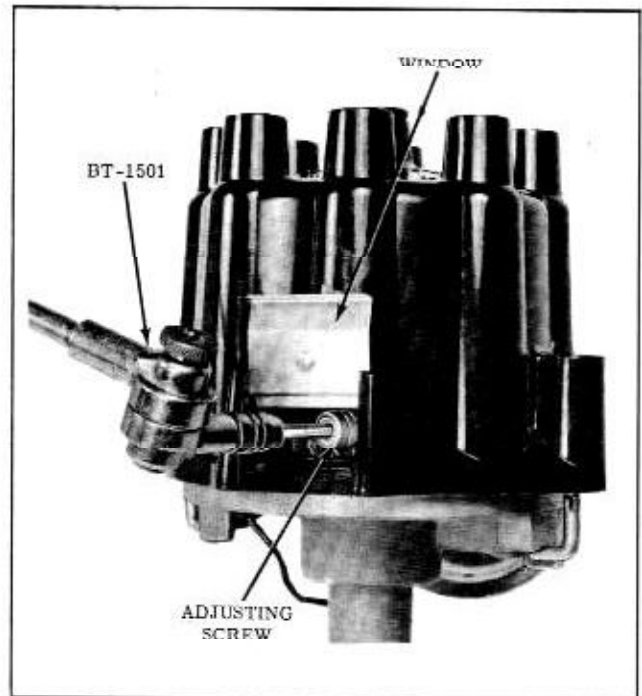

Fig. 13-53 Adjusting Dwell
- With the engine running at idle speed, insert Dwell Adjusting Tool BT-1501 into the head of the adjusting screw as shown in Fig. 13-53, and adjust dwell angle to 30° .
- d. Adjust dwell to 30° using Tool BT-1501 as shown in Fig. 13-53.